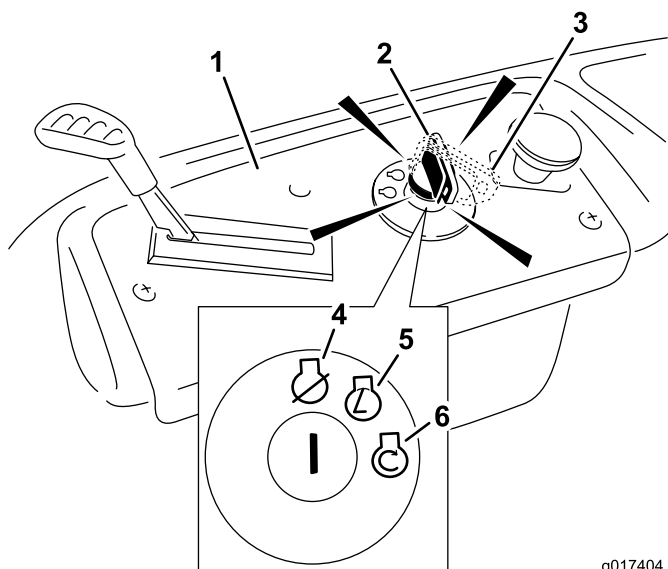

Figure 13
4. Turn the ignition key to Start to energize the starter. When the engine starts, release the key (Figure 13).
5. After the engine starts, move the throttle lever to Fast (Figure 13). If the engine stalls or hesitates, move the throttle lever back to Choke for a few seconds. Repeat this as required.
3. Turn the ignition key to Off (Figure 13) and remove the key.